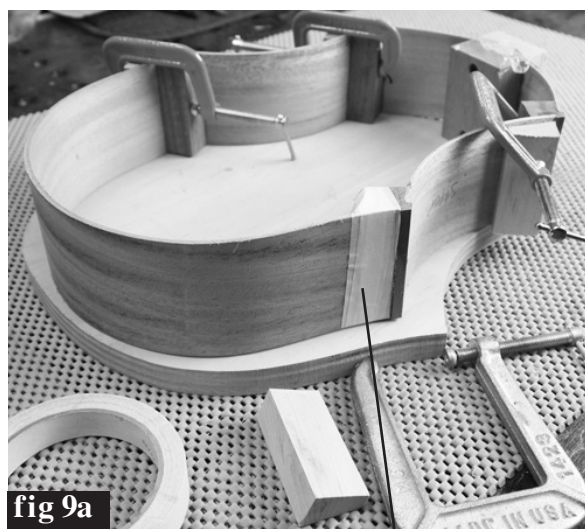

fig 9a
9. When this assembly has fully dried, you can use masking tape to pull the final corner together roughly (fig 9a). Do this **WITHOUT GLUE** first, just to make sure everything works easily for you, and no corner blocks break free.